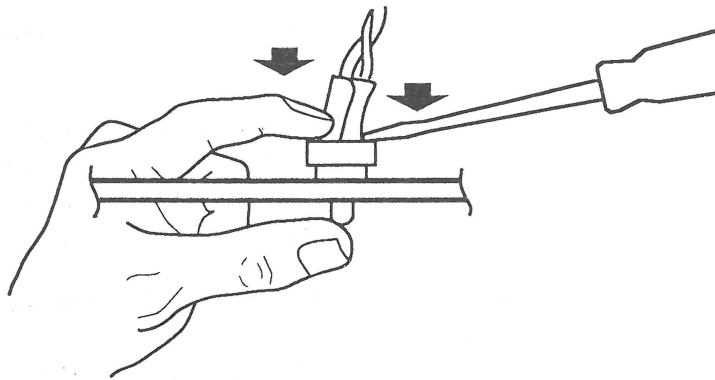

FIGURE 16
2. Slide the retaining ring down the wires and position it around the LED holder. Push the ring back into place with the screwdriver (Figure 16).